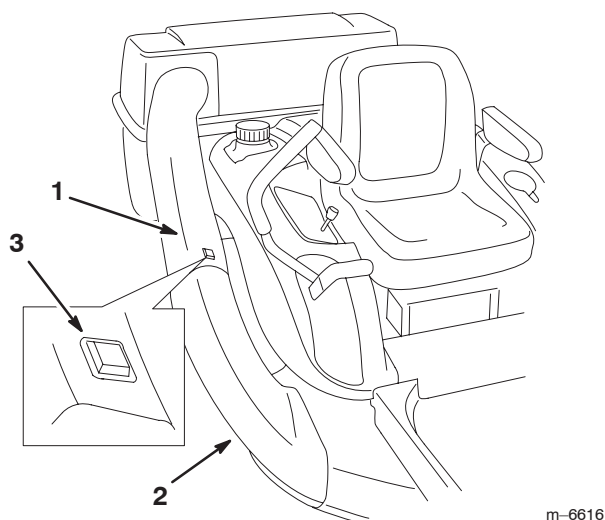

Figure 13
3. Slide the discharge tube into the opening in the grass catcher (Fig. 13).
4. Slide the discharge tube over the end of the chute, ensuring that the tab on the chute snaps into the square hole in the discharge tube (Fig. 13).
1. Push on the tab on the chute and pull the discharge tube free from the chute and grass catcher (Fig. 13)